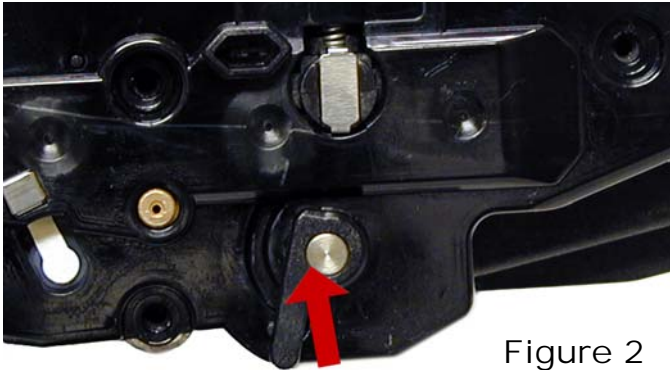

Figure 2
2) Gently pry off plastic drum axle bushing. Keep this bushing with the appropriate end cap when removed. Each side is different. See **Figure 2**